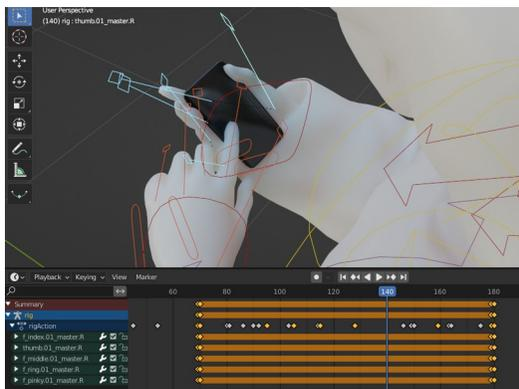

Figure 12-4 Keyframes for Gripping Phone
17. Sort out the fingers on the right hand by moving to frame 69 then selecting the rig armature and entering Pose mode. Select the spatula controls for all four fingers and the thumb then enter a keyframe so they keep their starting positions. Move on to frame 70 and pose each finger by scaling and rotating the spatula controls, once each finger is correct save a keyframe for it. It might be easier to see what it looks like by moving forward to frame 140, say. If you enter the keyframes at this later time then you must move them back to frame 70 by dragging them in the Timeline area, see Figure 12-4. When it looks good, duplicate the keyframes in the Timeline in reverse order to 180 and 181.